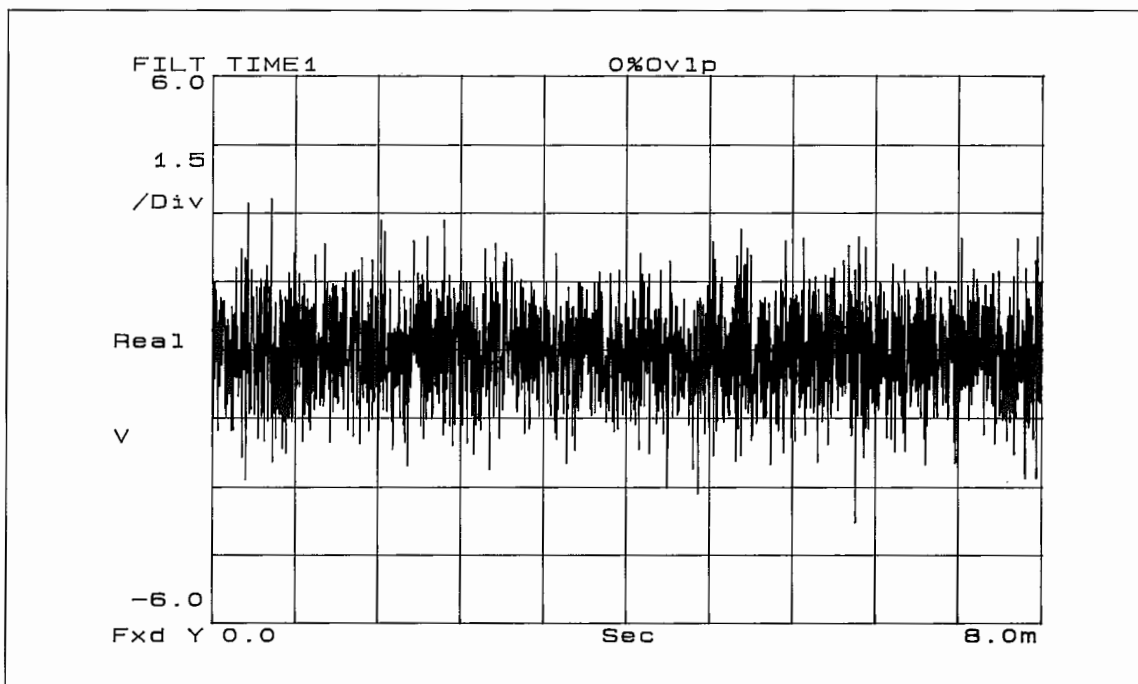

Figure A1-2 Random Noise
Refer to figure A1-2 to verify result.
If figure A1-2 is correct the following subblock is verified:
5. The random noise should follow the frequency span as it is changed. The display should appear similar to figure A1-2 as the frequency span is changed. To change frequency spans, press the HP 3562A keys as follows: